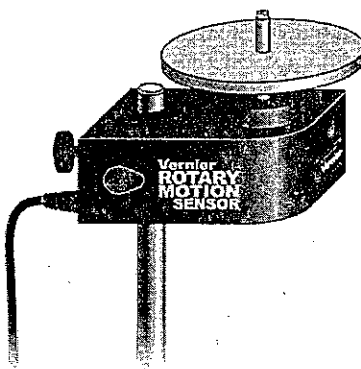

Figure 1
1. Mount the Rotary Motion Sensor to the vertical support rod. Place the 3-step Pulley on the rotating shaft of the sensor so that the largest pulley is on top. Measure the mass and diameter of the aluminum disk with the smaller hole. Mount this disk to the pulley using the longer machine screw sleeve (see Figure 1).